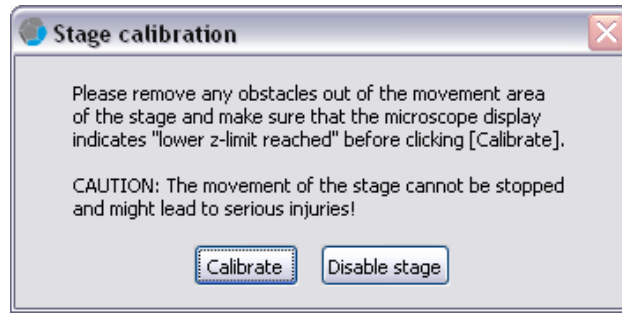

Figure 5.1.: Stage calibration warning
- *Stage Initialization*: The connection to the stage controller is established and the stage is referencing its axes. A warning message is displayed that has to be confirmed for this process to complete (see Figure 5.1). In case you abort the stage calibration, the stage has to be used manually, i.e., using the joystick.
- Wait for the stage calibration warning message Figure 5.1.